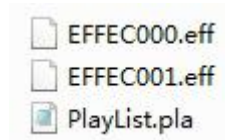

Fig. 6
3.Put the eff and pla format document in “PlayList” folder. Eff and pla format can edit by notepad. For example fig. 6.